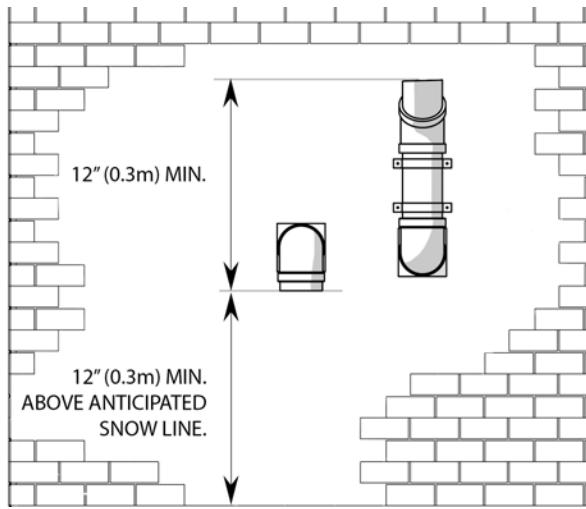
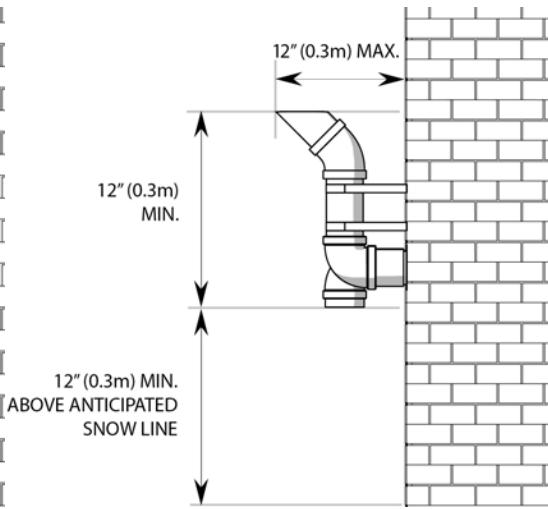
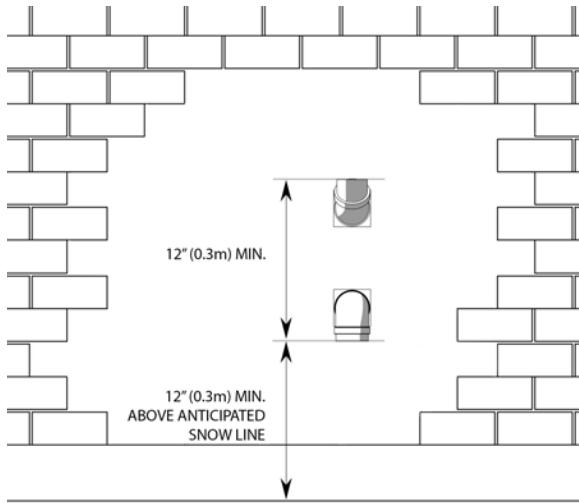
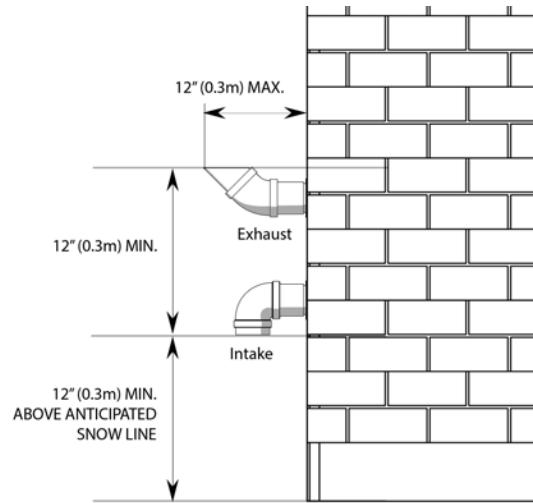

Figure 19 Vent termination clearance--horizontal perforations
Figure 20 Vent termination clearances--horizontal perforations, side view
Figure 21 Vent termination clearance--vertical alignment
Figure 22 Vent termination clearances--vertical alignment, side view
- » (Optionally) Raise the elevation of exhaust termination "periscope style" after passing through the wall, to gain the required clearance as shown in Figure 19 and Figure 20.
- » Use a 45° elbow on the exhaust termination to launch the plume up and off the sidewall (for protection of wall). A short piece of venting cut at 45° gives a horizontal termination protected from wind loads (see Figure 20, and Figure 22).
Important! Maintain at least the minimum separation of exhaust vent termination from boiler intake air as illustrated in Figure 19, Figure 20, Figure 21 and Figure 22. Failure to maintain the minimum separation can result in a dangerous situation where exhaust gasses are re-ingested with combustion air. Damage to the boiler can result from a failure to maintain these separations. Third party vent termination kits and concentric wall penetration kits that do not maintain these minimum separations must **not** be used. Improper installation will void the warranty.